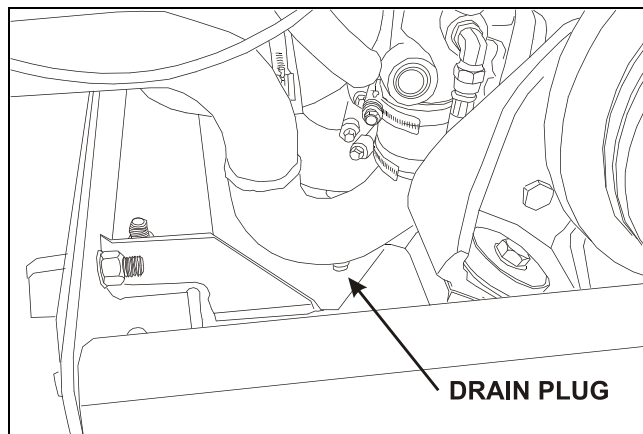

FIGURE 5: WATER PUMP DRAIN PLUG 05072
- Open the water pump housing inlet line drain plug (Fig. 5).